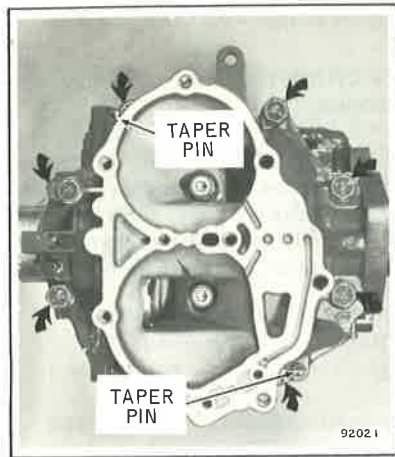

Figure 5-8. Crankcase Screws and Taper Pins
c. Remove two taper pins which align crankcase halves. See Figure 5-8. Drive out from back of crankcase towards front.
d. Remove two Allen head and eight hex head screws attaching crankcase to cylinder block. See Figure 5-8. Tap top side of crankshaft with rawhide mallet to break seal between crankcase and cylinder. Remove front half of crankcase.